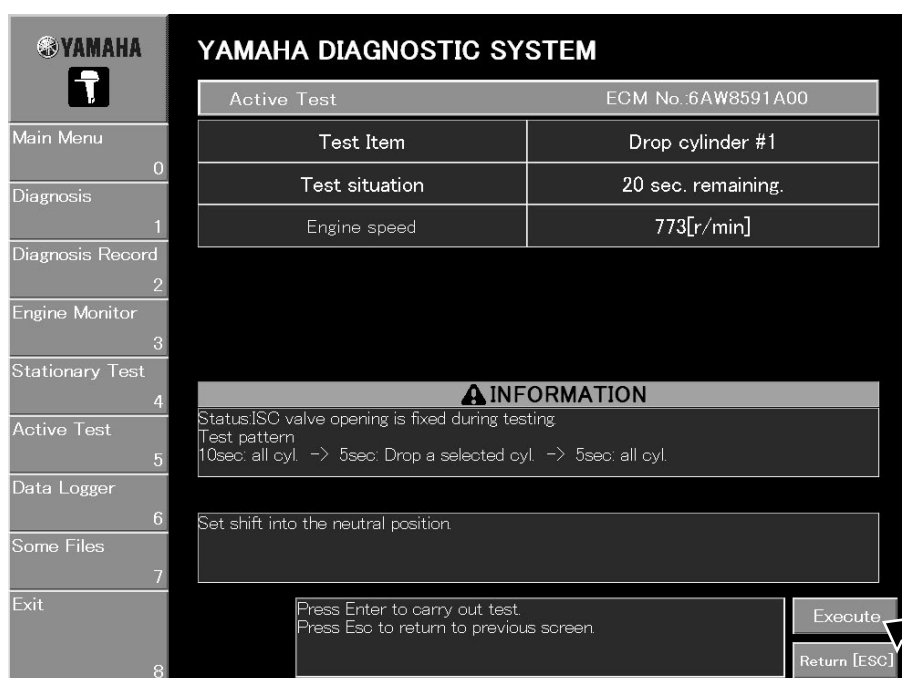

Fig. 103
5. While checking the information that appears beside **Test situation** and **Engine speed**, follow the test instructions in the messages that are displayed. (See fig. 103.)